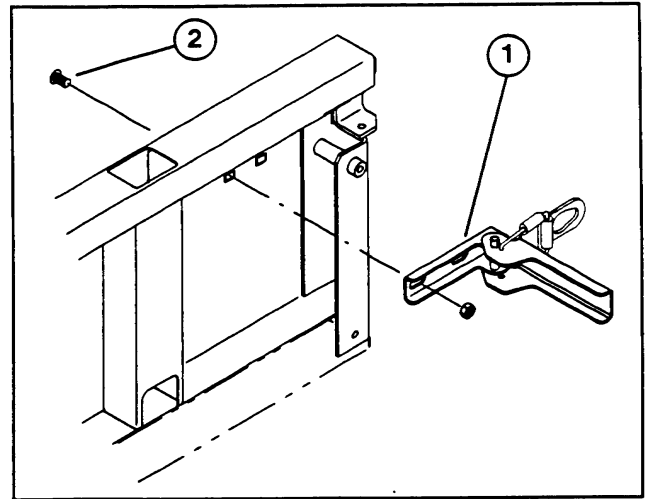

Figure 5
11. Loosely mount a tailgate latch assembly to each side panel with (2) 5/16-18 x 5/8" lg. carriage bolts and flange locknuts as shown in figure 5.